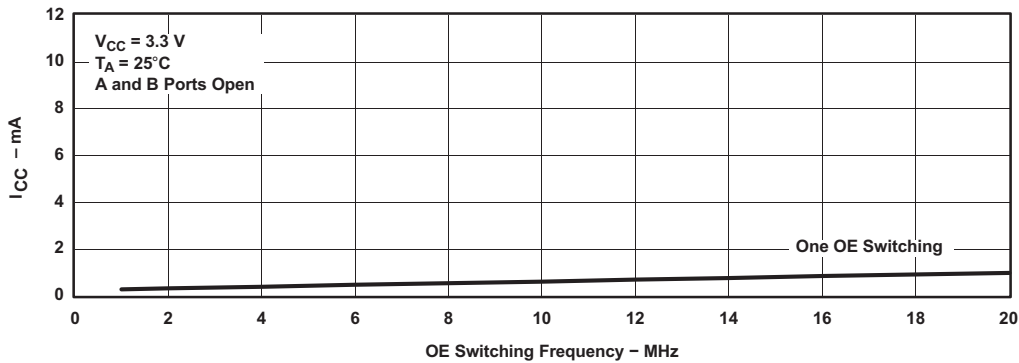

Figure 5. Typical I_{CC} vs OE Switching Frequency
(1) V_{IN} and I_{IN} refer to control inputs. V_{I} , V_{O} , I_{I} , and I_{O} refer to data pins.
(2) All typical values are at $V_{\text{CC}} = 3.3 \text{ V}$ (unless otherwise noted), $T_{\text{A}} = 25^{\circ}\text{C}$.
(3) For I/O ports, the parameter I_{OZ} includes the input leakage current.
(4) This is the increase in supply current for each input that is at the specified TTL voltage level, rather than V_{CC} or GND.
(5) This parameter specifies the dynamic power-supply current associated with the operating frequency of a single control input (see Figure 5).